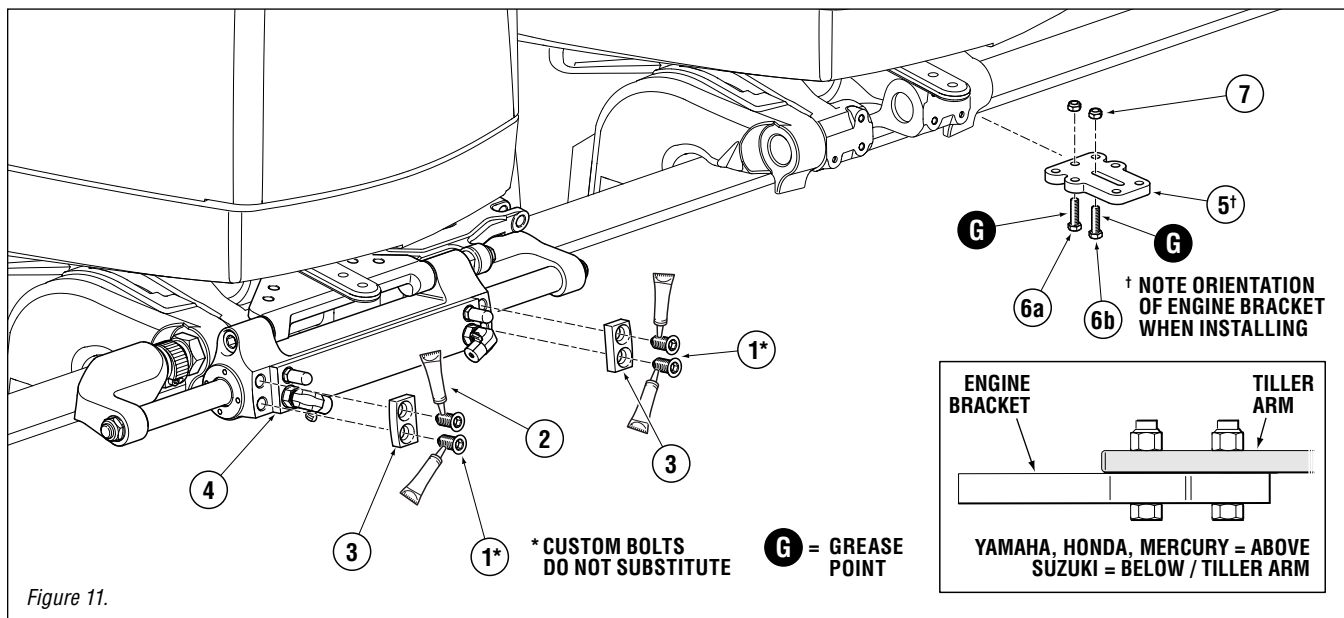

Figure 11.
2. Mount blanking plates (item 3) to both sides of steering cylinder (item 4) as shown in Figure 11.